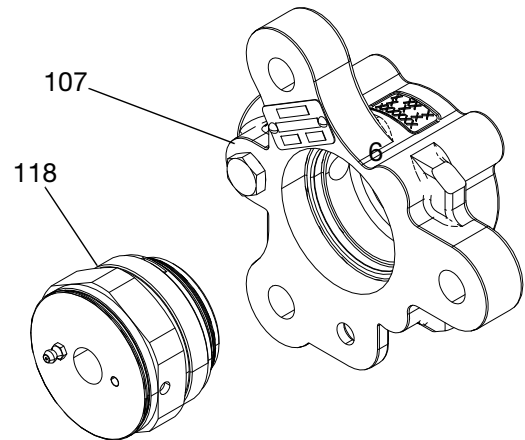

FIG. 27
- With the outlet housing (107) mounted securely in a vise, Install the throat retainer O-ring (120) onto the throat retainer (119). Place the retainer into the outlet housing (107).
- Apply anti-seize to the threads on the throat retainer (119) and thread it into the outlet housing (107). When fully threaded together torque the throat retainer to 200 ft-lbs. (271 N•m). See FIG. 27.